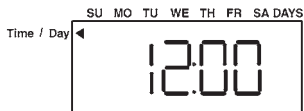

fig.12
2. Using the **↓↑** buttons, set the current time (fig. 12).